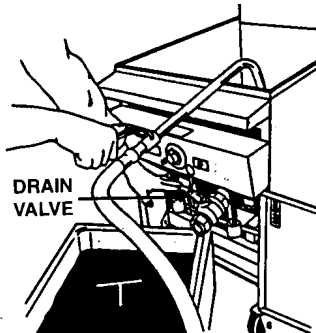

Figure 2.3: Close drain valve
3. Close fryer drain valve (See Figure 2.3).